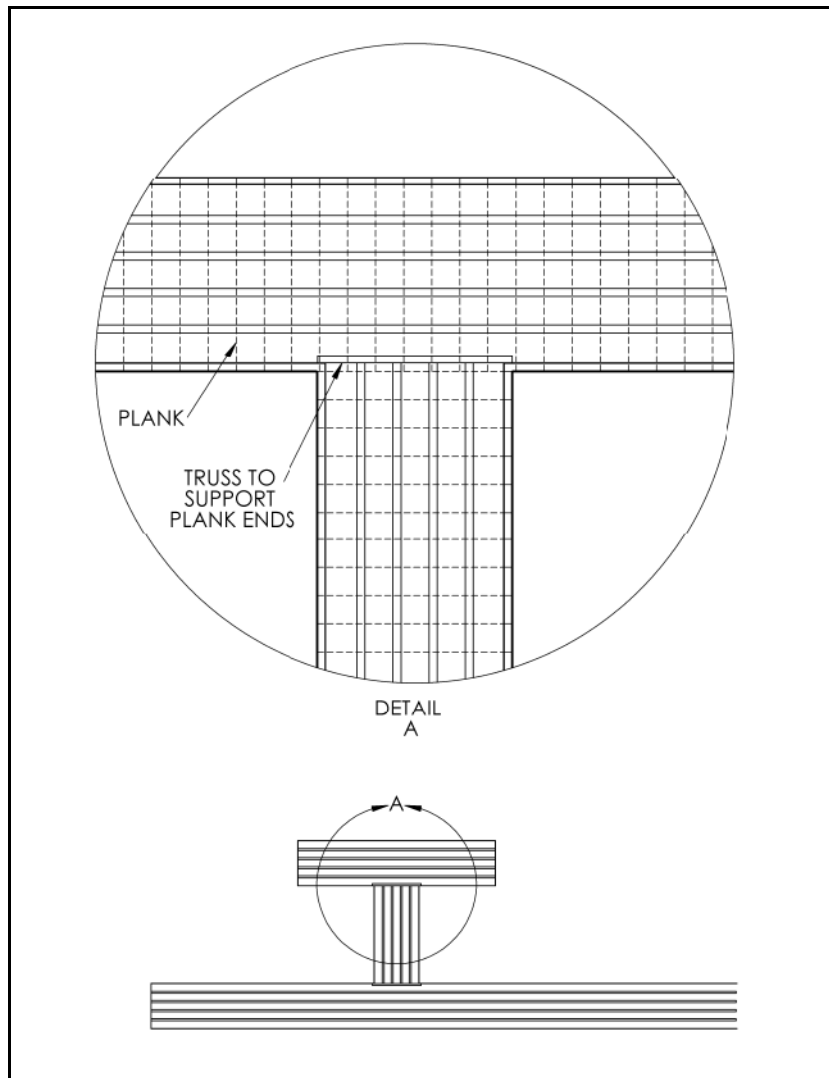

Figure 2.12
4. When working around tunnel intersections, cut a section of the truss to span the width of the tunnel so it will provide support to the plank ends. (Figure 2.12).